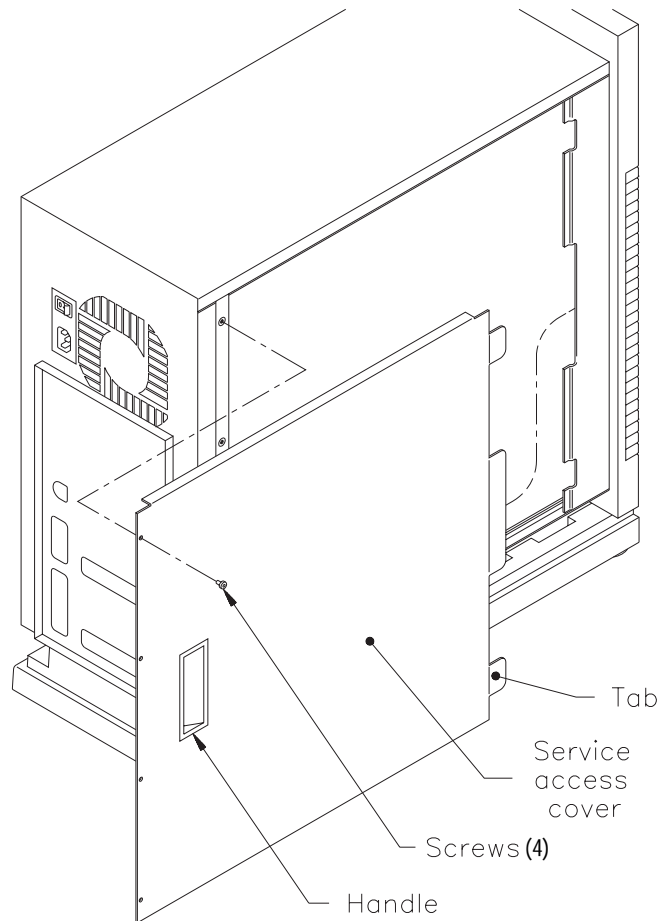

Figure 4 Removing the service access cover
1. Using a T-10 TORX bit (earlier models may require a Phillips bit), remove the four screws from the service access cover, as shown in Figure 4.
1. Position the service access cover on top of the library with the handle toward the back. Slide the tabs into the slots on the front panel (see Figure 4) and position the cover over the chassis.
2. Using a T-10 TORX bit (some models may require a Phillips bit) and four 6-32 \times 0.250 screws, secure the service access cover to the chassis. Tighten the screws to 8.0 inch-pounds (9.2 kg-cm) of torque (see Figure 4).